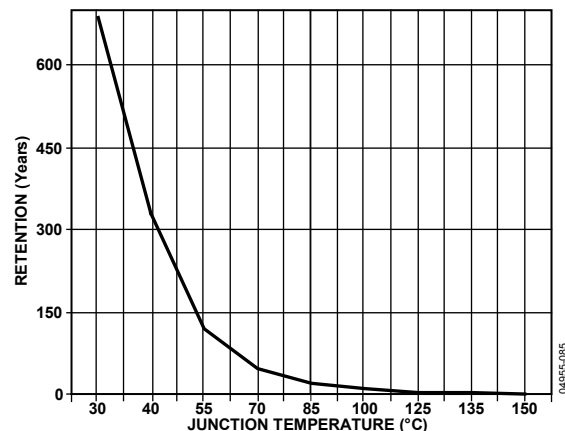

Figure 12. Flash/EE Memory Data Retention
Retention quantifies the ability of the Flash/EE memory to retain its programmed data over time. Again, the parts is qualified in accordance with the formal JEDEC Retention Lifetime Specification (A117) at a specific junction temperature (T) = 85°C). As part of this qualification procedure, the Flash/EE memory is cycled to its specified endurance limit, described previously, before data retention is characterized. This means that the Flash/EE memory is guaranteed to retain its data for its fully specified retention lifetime every time the Flash/EE memory is reprogrammed. Also note that retention lifetime, based on an activation energy of 0.6 eV, derates with Tj as shown in Figure 12.